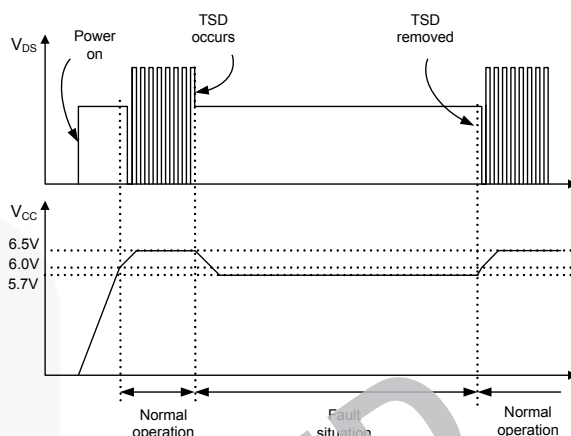

Figure 19. Over-Temperature Protection (OTP)
3.2 Thermal Shutdown (TSD): The senseFET and the control IC in one package makes it easy for the control IC to detect an abnormal over temperature of the senseFET. When the temperature exceeds approximately 140°C, the thermal shutdown triggers. When TSD triggers, delay current is disabled, switching operation stops, and V_{CC} through the internal high-voltage current source is set to 5.7V from 6.5V, as shown in Figure 19. Since TSD signal prohibits the senseFET from switching, there is no switching until the junction temperature decreases sufficiently. If the junction temperature is lower than 60°C typically, TSD signal is removed and V_{CC} is set to 6.5V again. While V_{CC} increases from 5.7V to 6.5V, the soft-start function makes the senseFET turn on and off with no voltage and/or current stress.